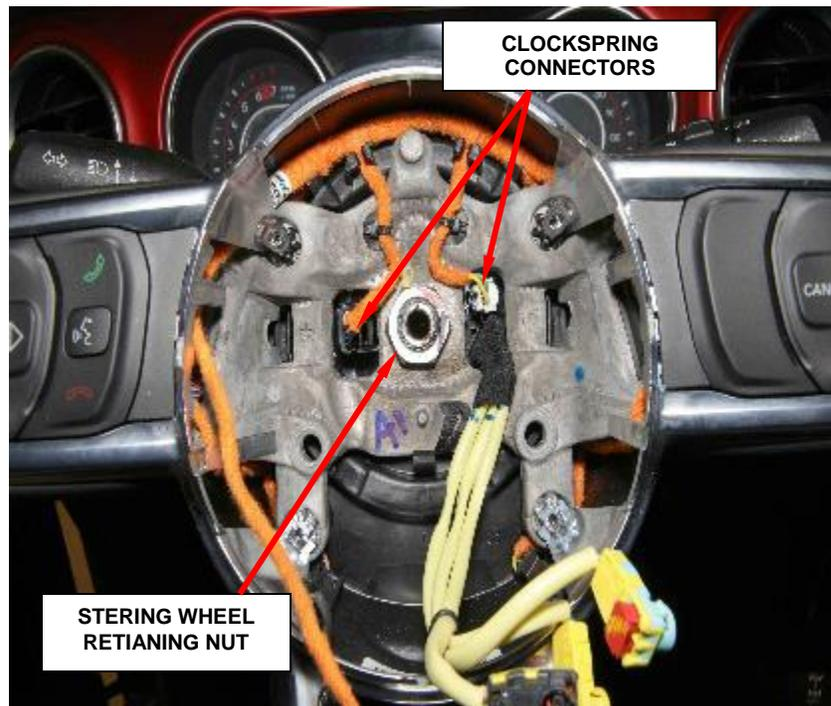

Figure 22 – Remove Steering Wheel Nut
4. Disconnect clockspring electrical connectors (Figure 22)
5. Remove and **DISCARD** the steering wheel retaining nut. Remove the steering wheel (Figure 22).